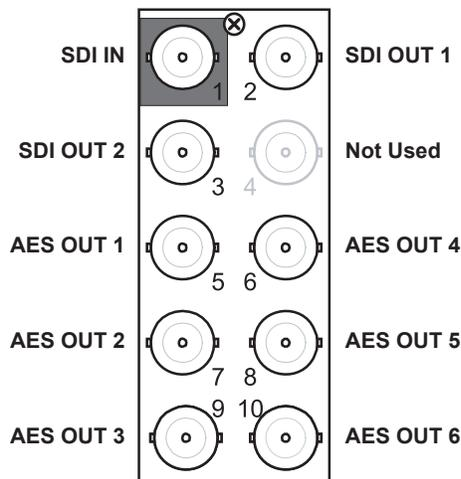

Figure 17 Cable Connections for the SFS-8622-A
**Figure 17** illustrates the cabling designations for one SDI input, two SDI outputs, and six AES-3id 75ohm unbalanced outputs. The **AES I/O Config** is set to **0 in, 6 out**.